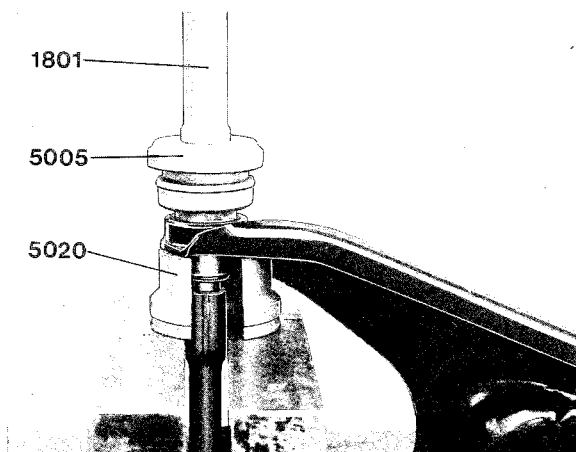

Fig. 6-36. Rear bushing installation
6. Position the shaft. Note that the longer end should face forwards. Press in the rear bushing (P/N 679 248-5) with the help of driver 5005, handle 1801 and adapter 5020, Fig. 6-36.